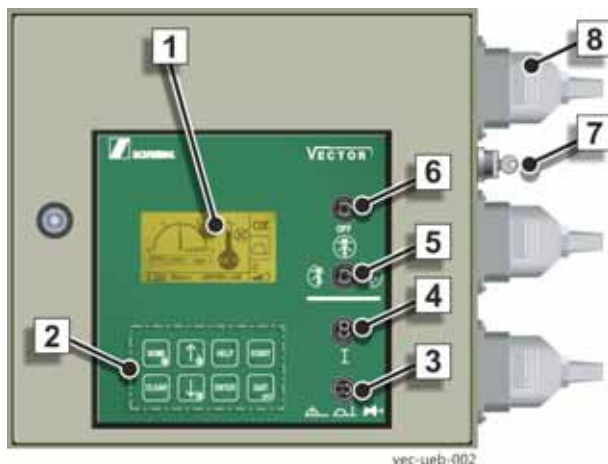
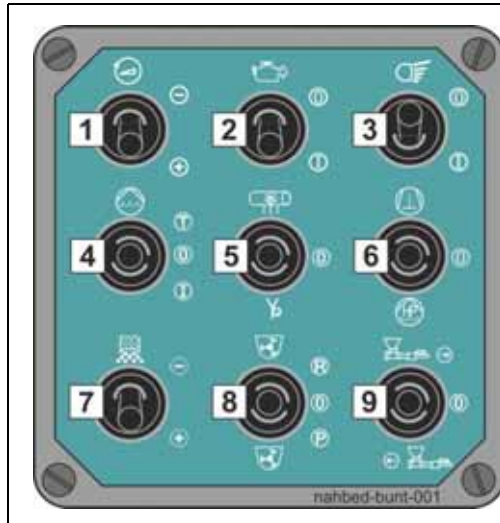
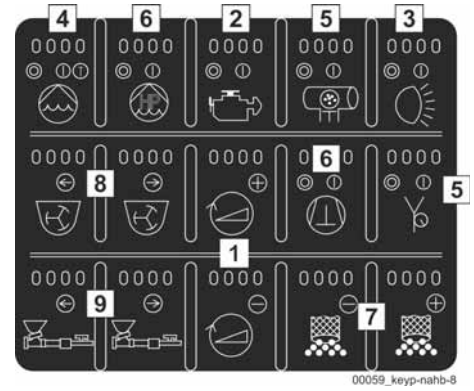

Fig. 70
Fig. 72 Local control
Fig. 73 Local control keypad
Activate the "LOCAL" operating mode using switch (3) on the switch cabinet of the VECTOR control system (Fig. 70).
Release the "LOCAL" operating mode with button (4) (Fig. 70).
A short acoustic signal confirms the release and field (4) (Fig. 70) shows this symbol.
<p>Symbol flashing: Switch for local control (3) (Fig. 70) is enabled! Set all switches for the local control unit (Fig. 72) / (Fig. 73) to position 0!</p>